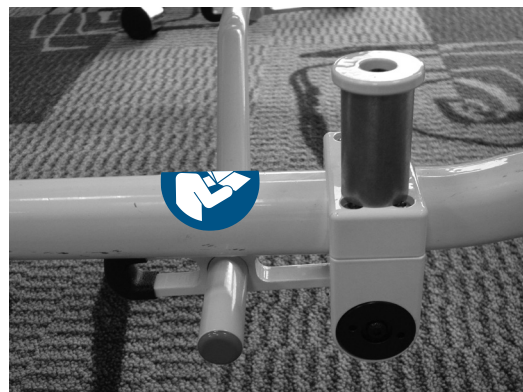

Figure 40
2. Operator 2 rolls the cot slightly forward to make sure that the kickstand retracts on its own as shown in Figure 40.